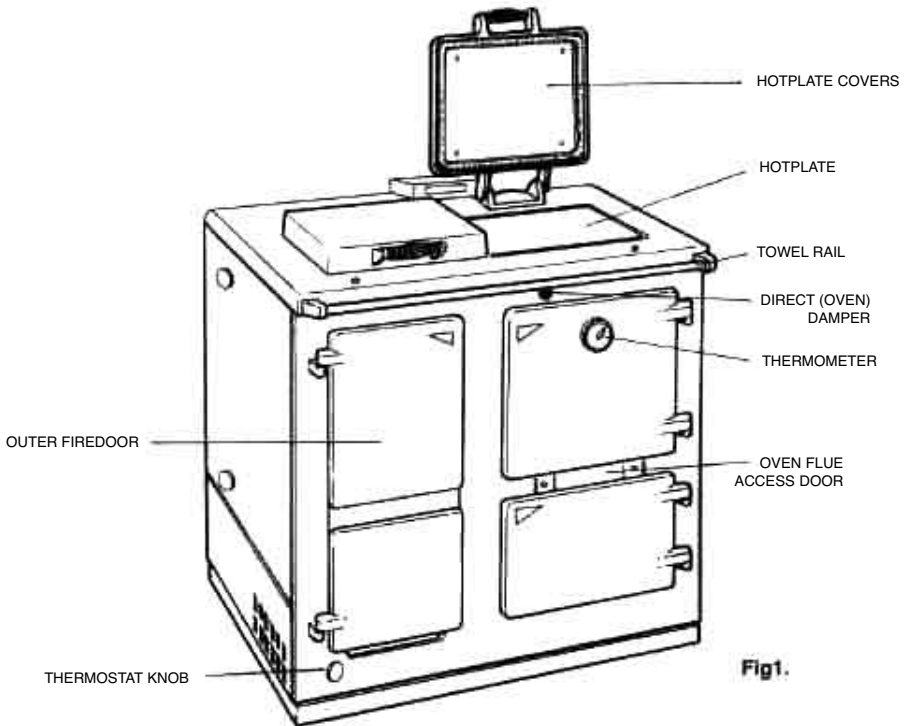

Fig1.
1. A thermostatically operated control in the boiler, controlled by a knob at the lower left-hand front (see Fig. 1).